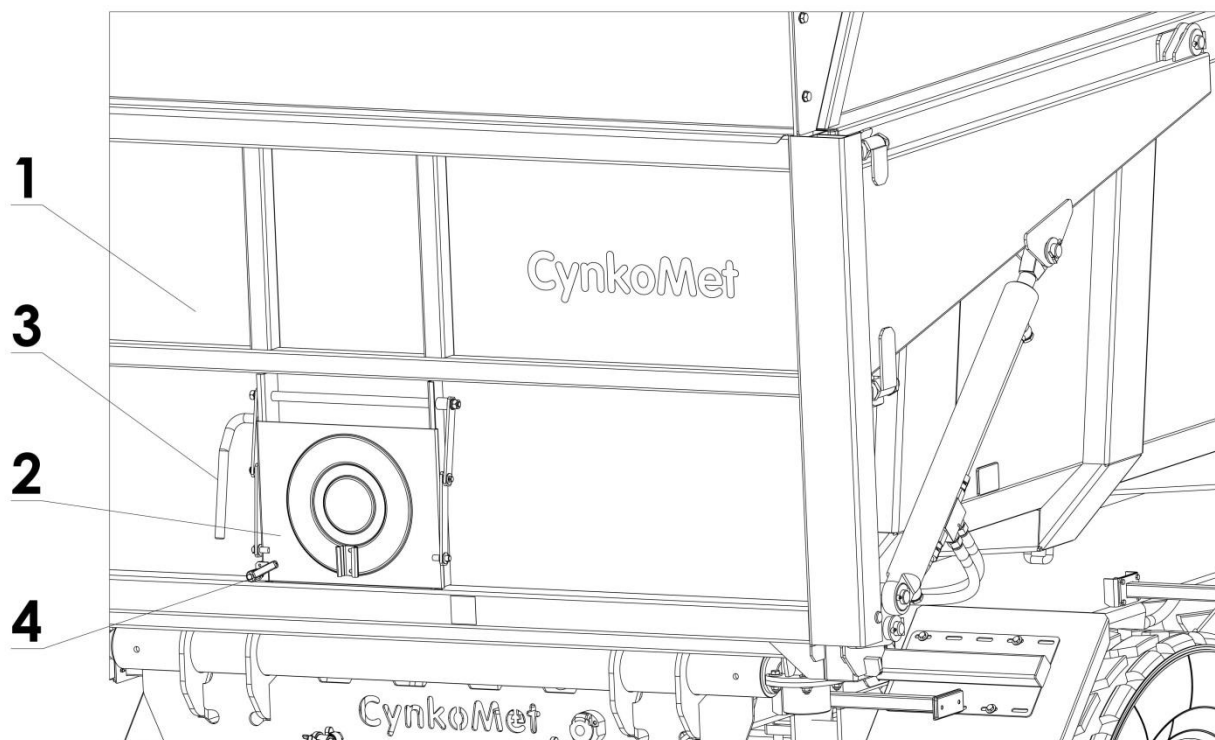

Figure 7. Dump window.
In order to allow a more precise unloading of materials in powder form, a dump window is provided in the rear wall (12) (fig. 7).